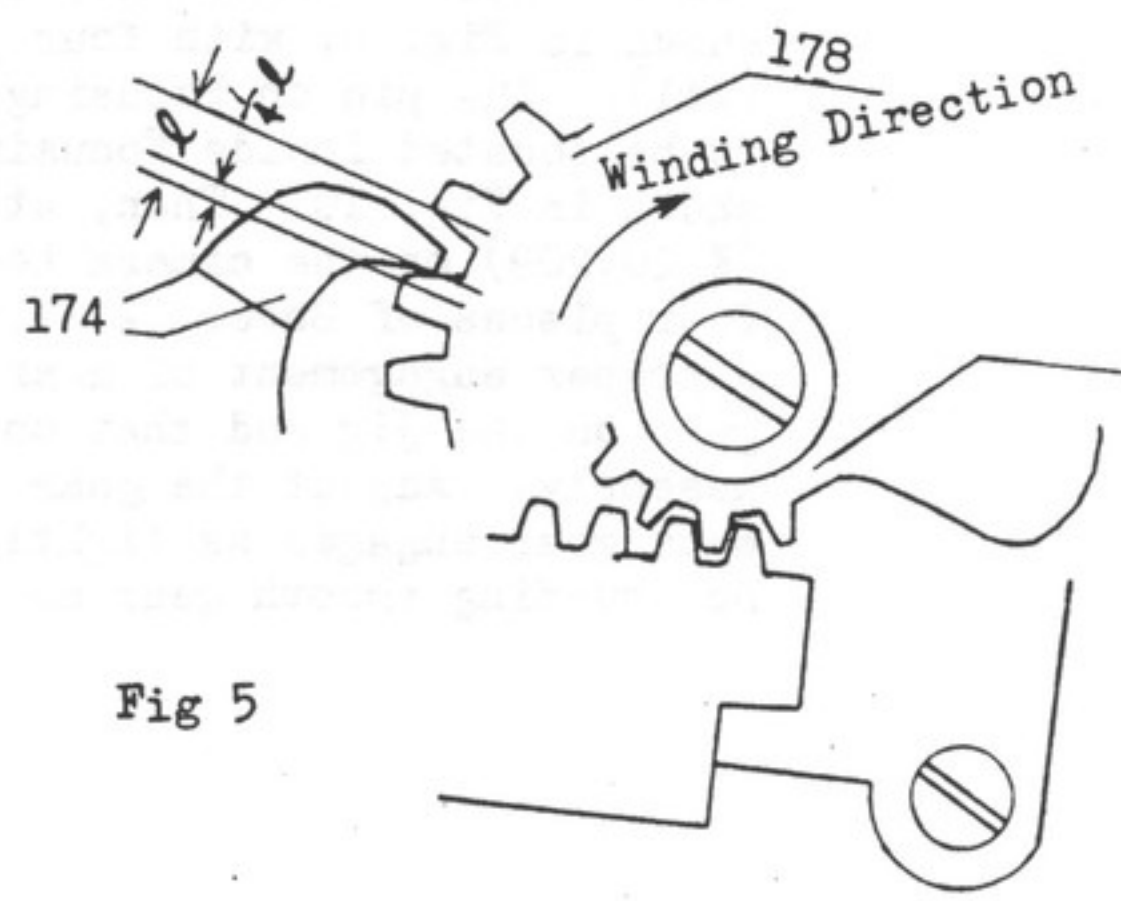

Fig 5
Make adjustment of Eccentric ratchet washer (173) so that the end of Ratchet pawl (174) will still position between the teeth of Winding gear (178), leaving 1/4 of the width between gear teeth, at the very time when Wind lever (157) has been fully swung. See Fig. 5.